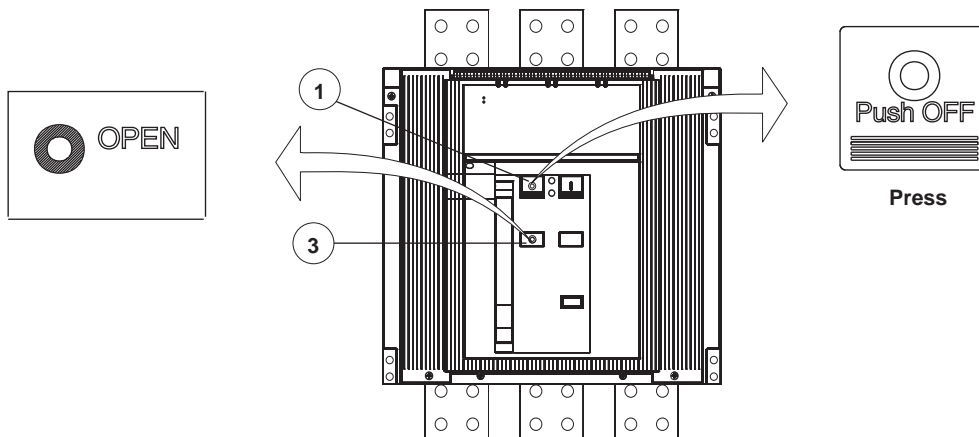

Fig. 18
Press the push-button “O” (1) to open the circuit breaker in the manual mode. When there is a shunt opening release, the operation can also be carried out in the remote mode by means of a separate control circuit. The open state is signalled by the appearance of the letter “O” in the indicator (3, Fig. 18).